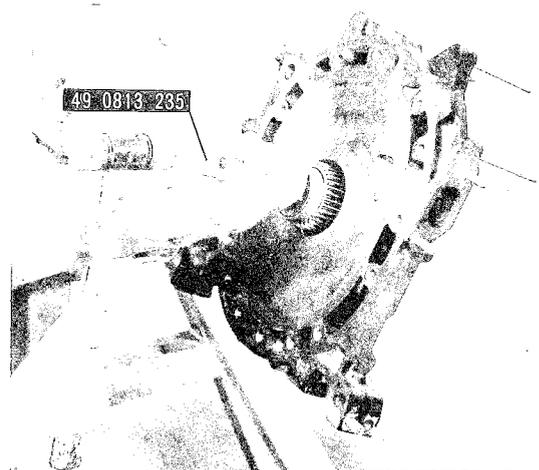

Fig. 1-29 Removing front stationary gear
1. Remove the stationary gear and main bearing assembly from the front housing, using the **main bearing replacer** (49 0813 235), as shown in Fig. 1-29.